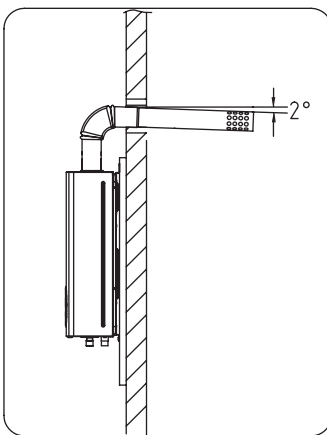

Fig 7
- The exhaust pipe should be at the shortest possible horizontal length with a downward slope of 2 degrees. It is convenient for the discharge of the condensed water and rainwater. Fig 7